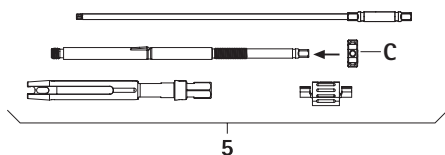

Fig. 11
- Screw lock nut **C** onto the inner sleeve, see Fig. 11.